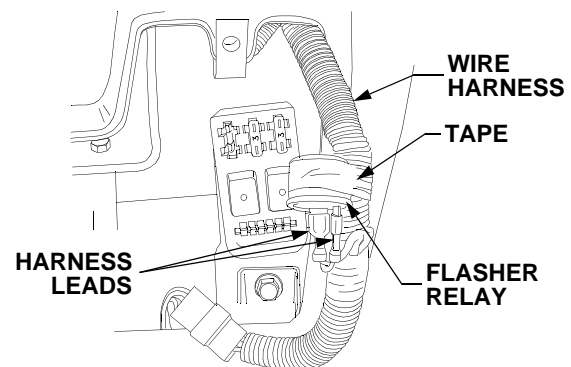

Figure 40
- Pull the wire harness from the dash opening. Cut and remove the electrical tape holding the flasher relay to the harness. See Figure 40